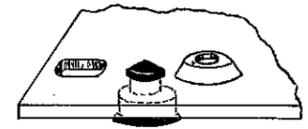

Figure 21
- () Observe Figure 21 and install the four rubber feet in the four large holes provided in the bottom cover. Insert from the painted side of the cover.